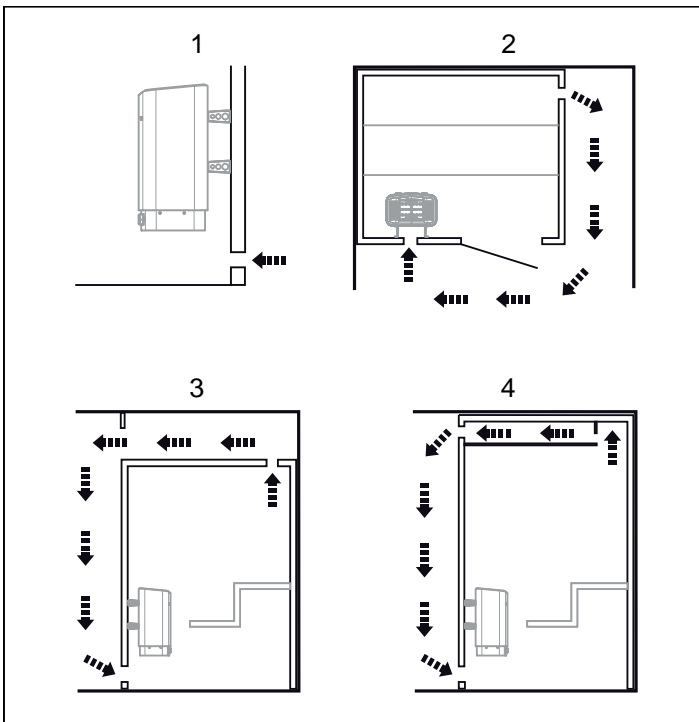

Figure 4: Positioning the inlet and outlet vents
- at the maximum possible distance from the inlet vent, e.g. diagonally (see Figure 4, Page 6)
- high on the wall or in the ceiling (see Figure 4, Page 6).